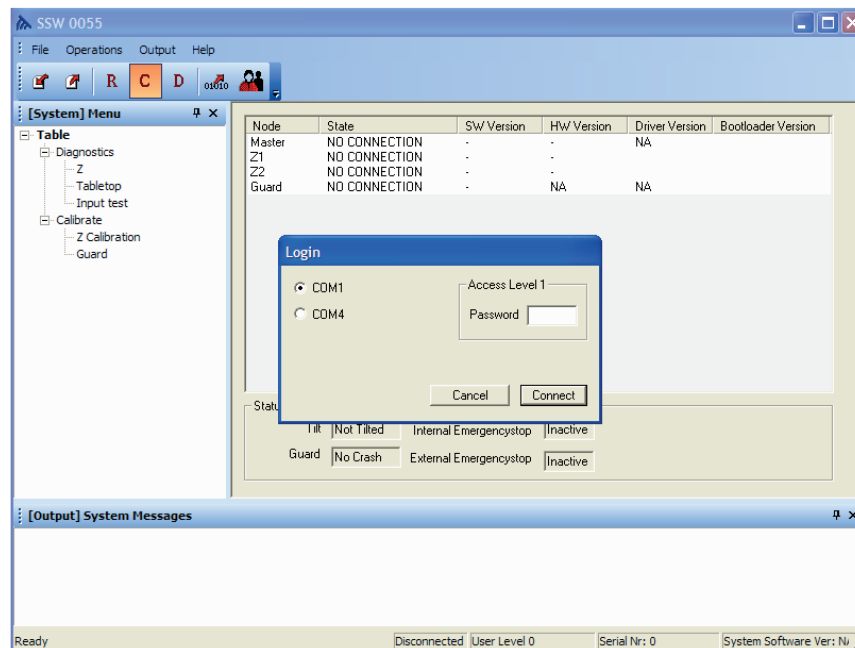

Fig. 4-148 Login
5. Connect the service cable from the lap top (PC) to the serial interface port (COM). (The service cable can be ordered as a spare part).
7. Select COM-port and enter password. See Fig. 4-148 *Login*.
8. Verify that the User Level in Fig. 4-148 *Login*, changes from 0 to 1, when entering the correct password.